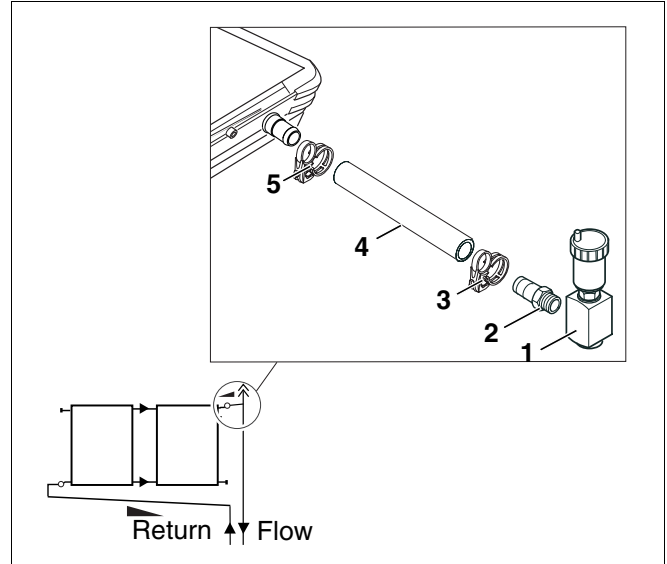

Fig. 41 Connecting flow line and air vent with bleeder
- ▶ Remove the preassembled short solar hose (if the flow pipe is on the r.h. side) and replace it with the long solar hose (Fig. 41, **Item 4**) at the top connection of the collector that is the last hydraulically.
- ▶ Fasten the long solar hose to the collector with a new hose clip (Fig. 41, **Item 5**).
- ▶ Slide the second hose clip (Fig. 41, **Item 3**) over the long solar hose.
- ▶ Connect the air vent with bleeder (accessories) (Fig. 41, **Item 1**) to the hose coupling (Fig. 41, **Item 2**) on the long solar hose in the attic if possible. The hose coupling is included with the basic piping set.